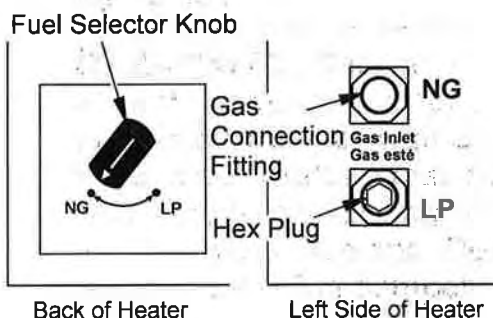

Figure 5 - Settings for Natural Gas Selection
2. For NATURAL GAS, press in knob using a flat screwdriver with a blade with thickness of a quarter and turn knob clockwise until the knob locks into the NG position (see Figure 5). Fuel selection device must be locked in the NG position. Do not operate heater between locked positions!
4. Remove hex plug (with wrench provided) from natural gas inlet of regulator (see Figure 5). Install gas line into NG inlet of regulator. Use thread sealant to assure there are no leaks.